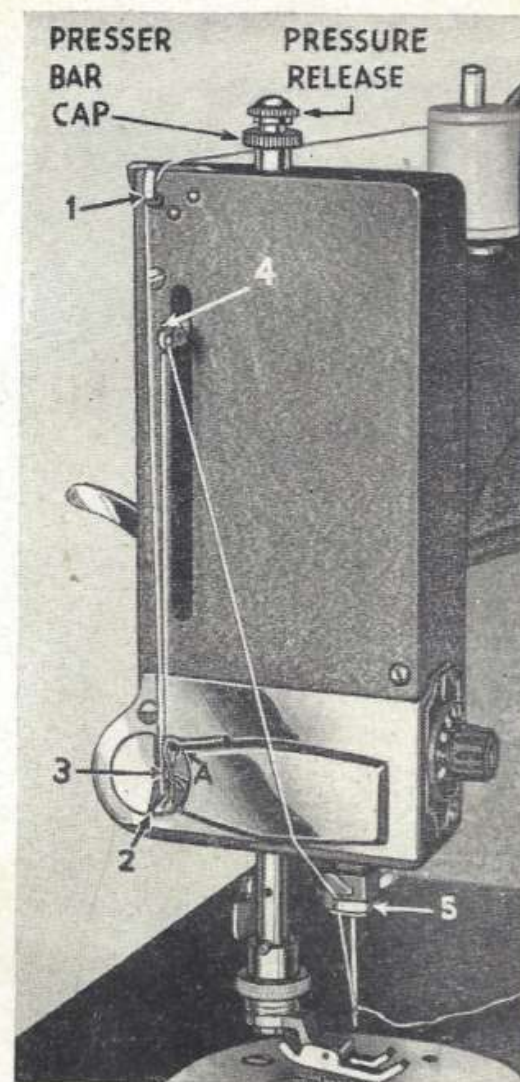

FIGURE 7
See Fig. 7. Raise the presser foot by raising the presser foot lifter. Then turn disc wheel by hand until the takeup (4) is at its highest point. Place spool of thread on the spool pin located in the center of machine arm, and throughout entire threading operation maintain a slight tension on the thread with the fingers of the right hand close to the spool.
See "Darning", Pg. 49 for instructions on the use of the presser bar cap with pressure release shown in Fig. 7.